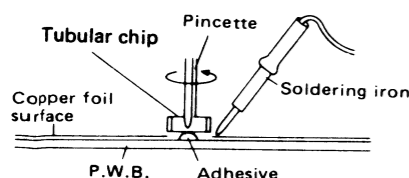

Figure 21-2
- Holding the chip with a pincette, take it off gently using the soldering iron's heat applied on each terminal of it. See Fig. 21-2.